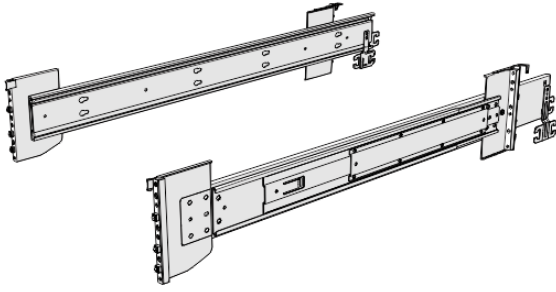

Figure 38. Support rails
1. Locate the hardware that is used to install the rails, including the M4xL6 and M5xL13 screws. Set the hardware, which is shown in Figure 38 on page 80, aside for use later in the installation process.